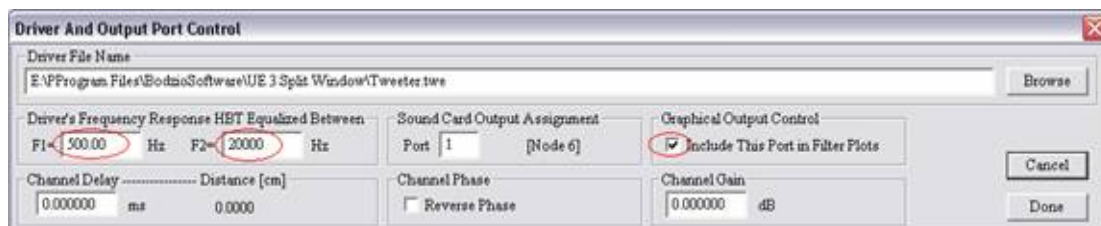

Figure 133. Load the tweeter file and set the necessary parameters.
- We can now load the driver's SPL data into the driver element. Starting with the tweeter, right click on the driver element in the tweeter branch to open the element dialog, Figure 133.